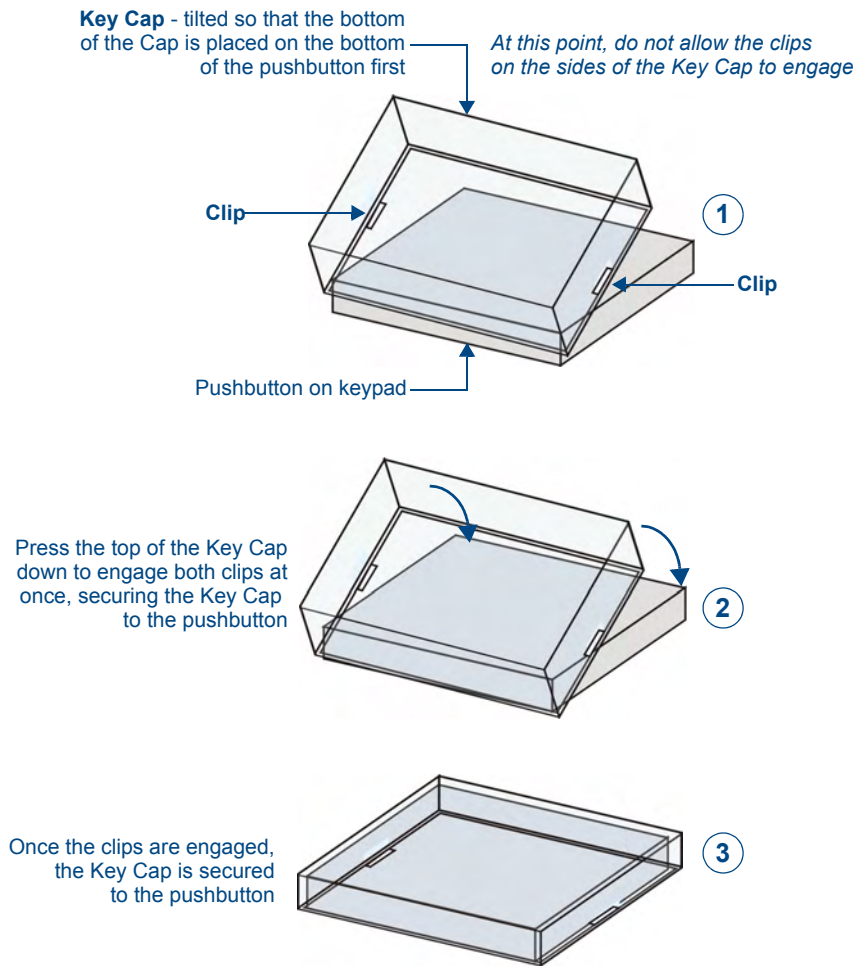

FIG. 3 Placing a Button Label inside a Key Cap
3. Install the Key Cap on the pushbutton (FIG. 3):